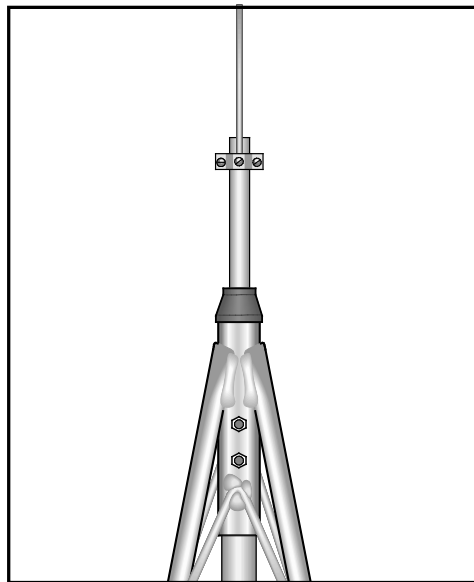

FIGURE 7-4. Install the UT10 mast.
1. Install the mast as shown in FIGURE 7-4. Attach the 3/4 inch x 10 inch nipple to the mast using the bell reducer. Loosen the two bolts at the top of the tower and insert the mast. For a 3 m mounting height, rest the bell reducer against the top of the tower. Tighten the two bolts to secure the mast.